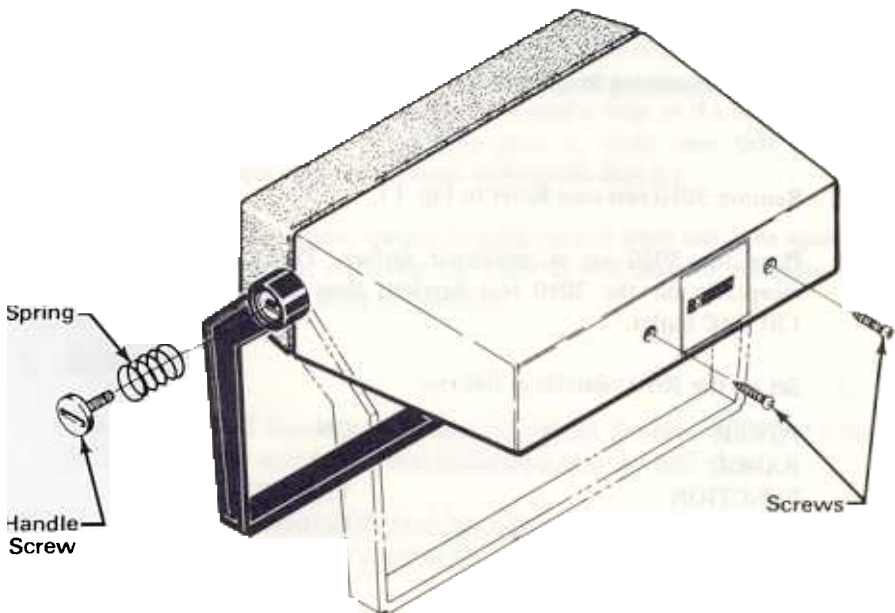

Fig. 17. Removal of rear case.
Use a coin (a quarter works best) to remove the two screws that hold the handle to the case. Use caution to avoid losing the springs beneath the screws that hold the handle on the case. Remove the handle. The handle may be reversed if the user desires; refer to Fig. 17.
Remove 3010 rear case Refer to Fig. 17.
8. Disconnect the scope probe and counter from the 3010 600 Ω OUTPUT. Carefully re-install the rear case (refer to Fig. 17)
Remove case (Fig. 17).